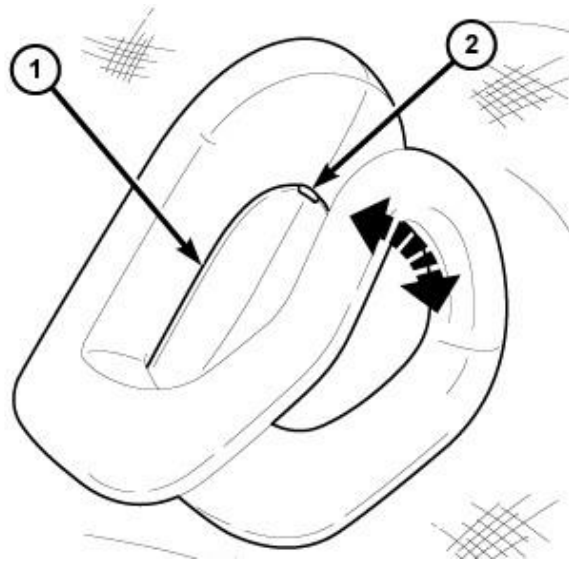

Figure 21 – Coat Hook
12. Using a small flat bladed tool, open the coat hook screw cover (2) then remove the screw and coat hook (Figure 21).
50. Position the coat hooks (5) onto the headliner and install the screws tightening securely into the mounting clips then close the screw cap fully (Figure 21).